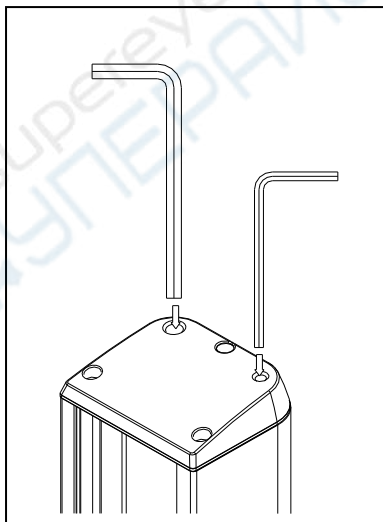

Fig 10
3.2.6 Storing for allen wrench (Fig 10)